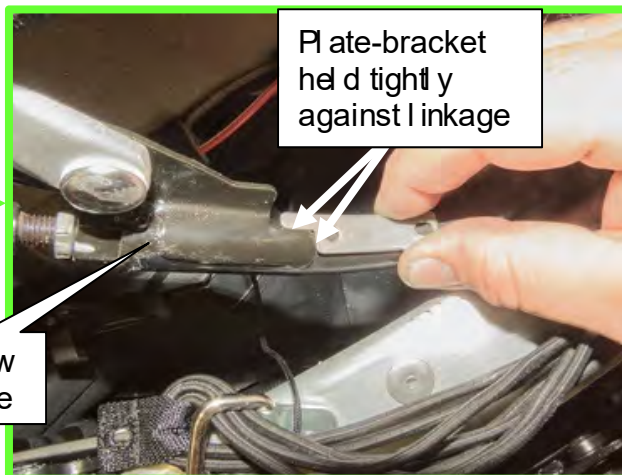

Figure 27
30. Place the plate-bracket (PLATE-BRKT, RH/LH) onto the 5th bow linkage, as shown in Figure 27.
- Reference numbers 6 (RH) and 7 (LH) on page 30.